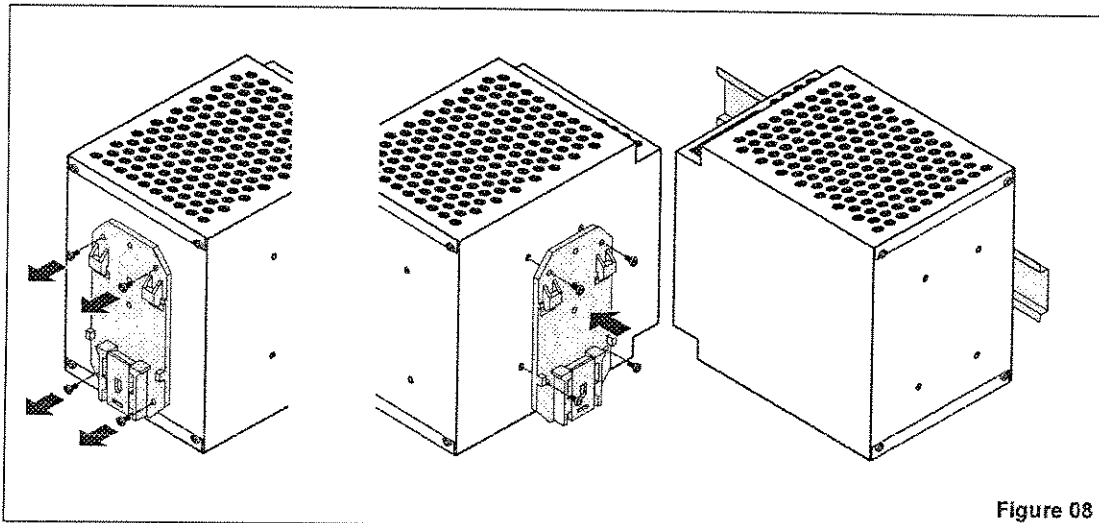

Figure 08
A flat mounting position can be achieved by mounting the module onto the DIN rail at a 90° angle. To do this, mount the DIN rail adapter (UTA 107) ⑦ as shown in Figure 08. No additional mounting material is required. Mounting screws: Torx T10 (torque 0.8 - 0.9 Nm).